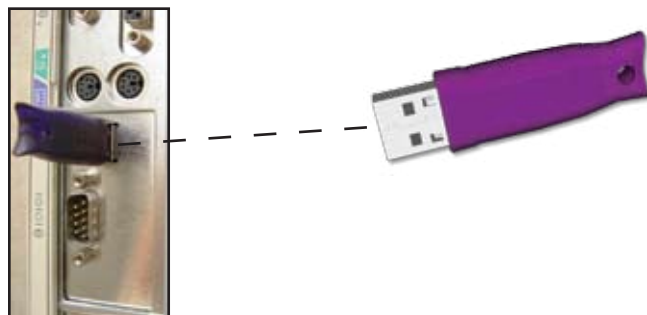

Figure 5. Install the drivers, then insert the USB key into the PC.
7. Connect the Ioline 301 Software key to the USB port (**Figure 5**).